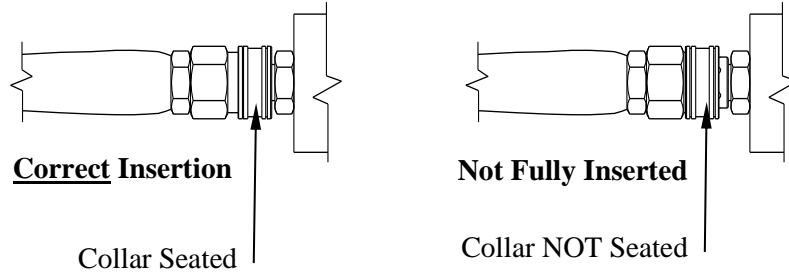

Fig. 8b
- Release the collar, making sure it springs back and re-seats to its original (non-retracted) position. (Fig. 8b). *Check the connection by pulling on the hose to ensure a positive connection.*